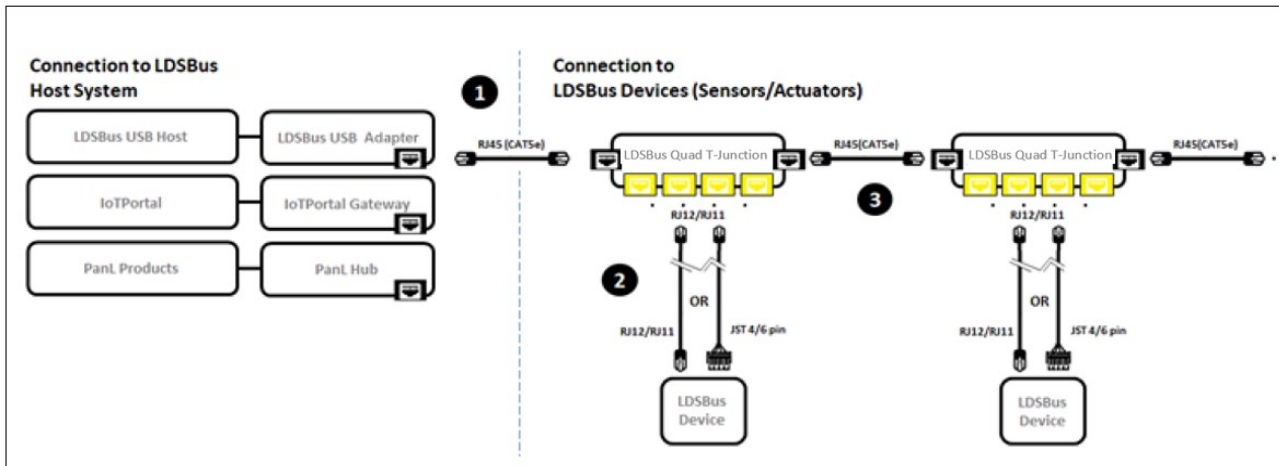

Figure 4 - LDSBus 2CH NL Relay - Connection Diagram
Figure 4 illustrates the connection of the LDSBus 2CH NL Relay (LDSBus Device) to the LDSBus. Please visit <https://brtsys.com/resources/> to view the full device application, setup and installation guides.
2. Connect the configured LDSBus Relay to the LDSBus Quad T-Junction as shown in Figure 4.
3. If there is more than one LDSBus Quad T-Junction, chain them together as shown in Figure 4.